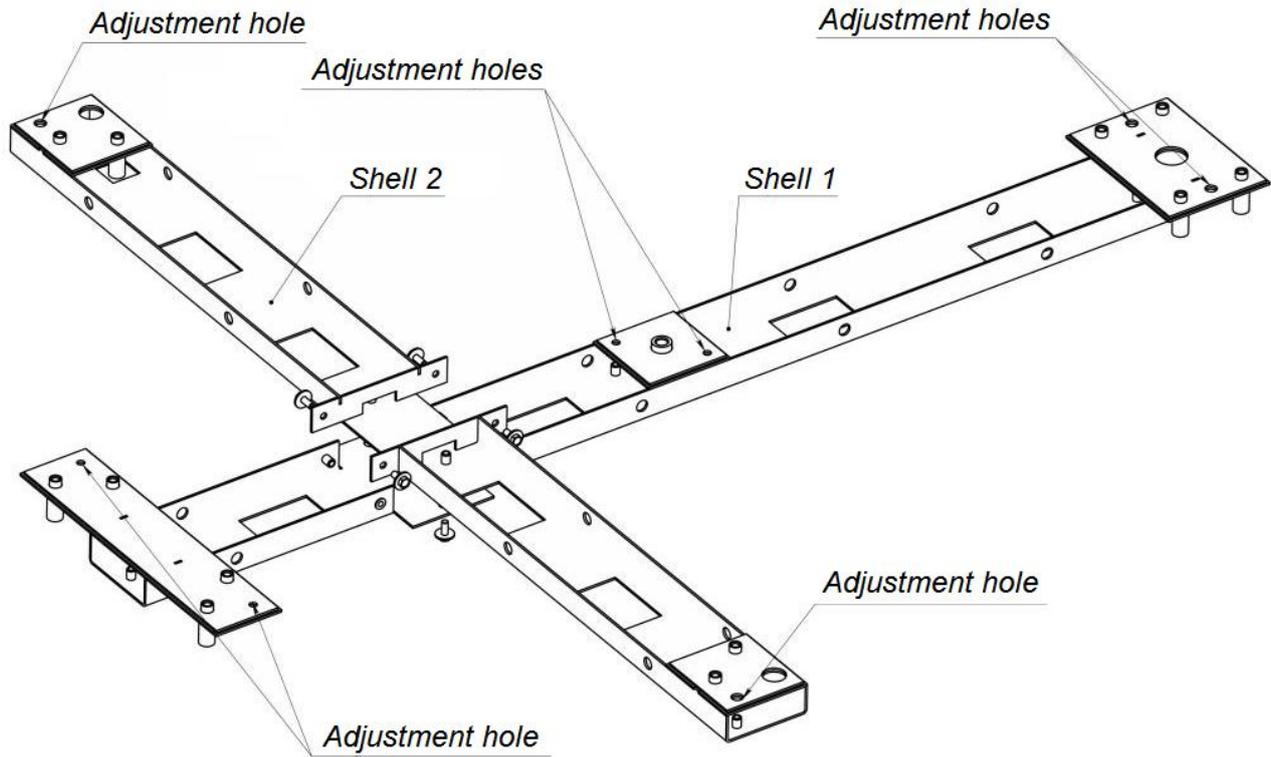

Figure 2. Assembly scheme.
3. Assemble the foundation frame in accordance with Figure 2.